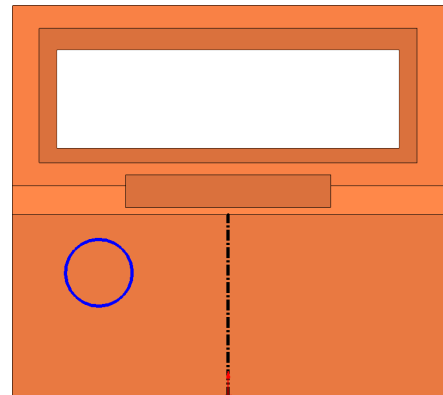

Fig. 73
Step 5. Click **Circle**  (S) on the Sketch toolbar.
Step 6. Sketch circle for headlight, **Fig. 73**.